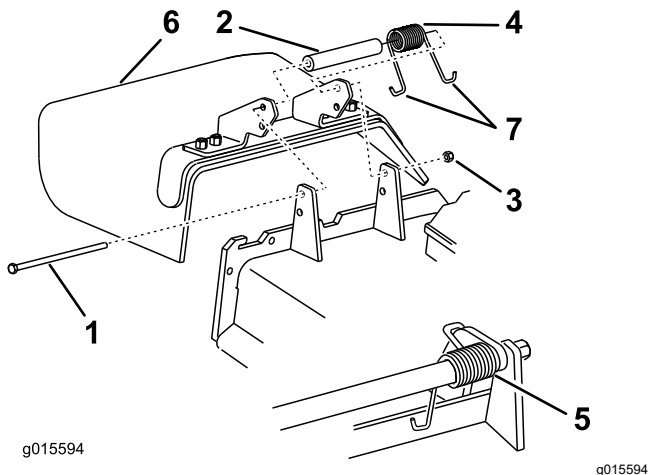

Figure 101
1. Remove the locknut, bolt, spring, and spacer holding the deflector to the pivot brackets (Figure 101).
2. Remove the damaged or worn grass deflector (Figure 101).
Note: Make sure that 1 J-hook end of the spring is installed behind the deck edge before installing the bolt as shown in Figure 101.
6. Place 1 J-hook end of the spring around the grass deflector (Figure 101).